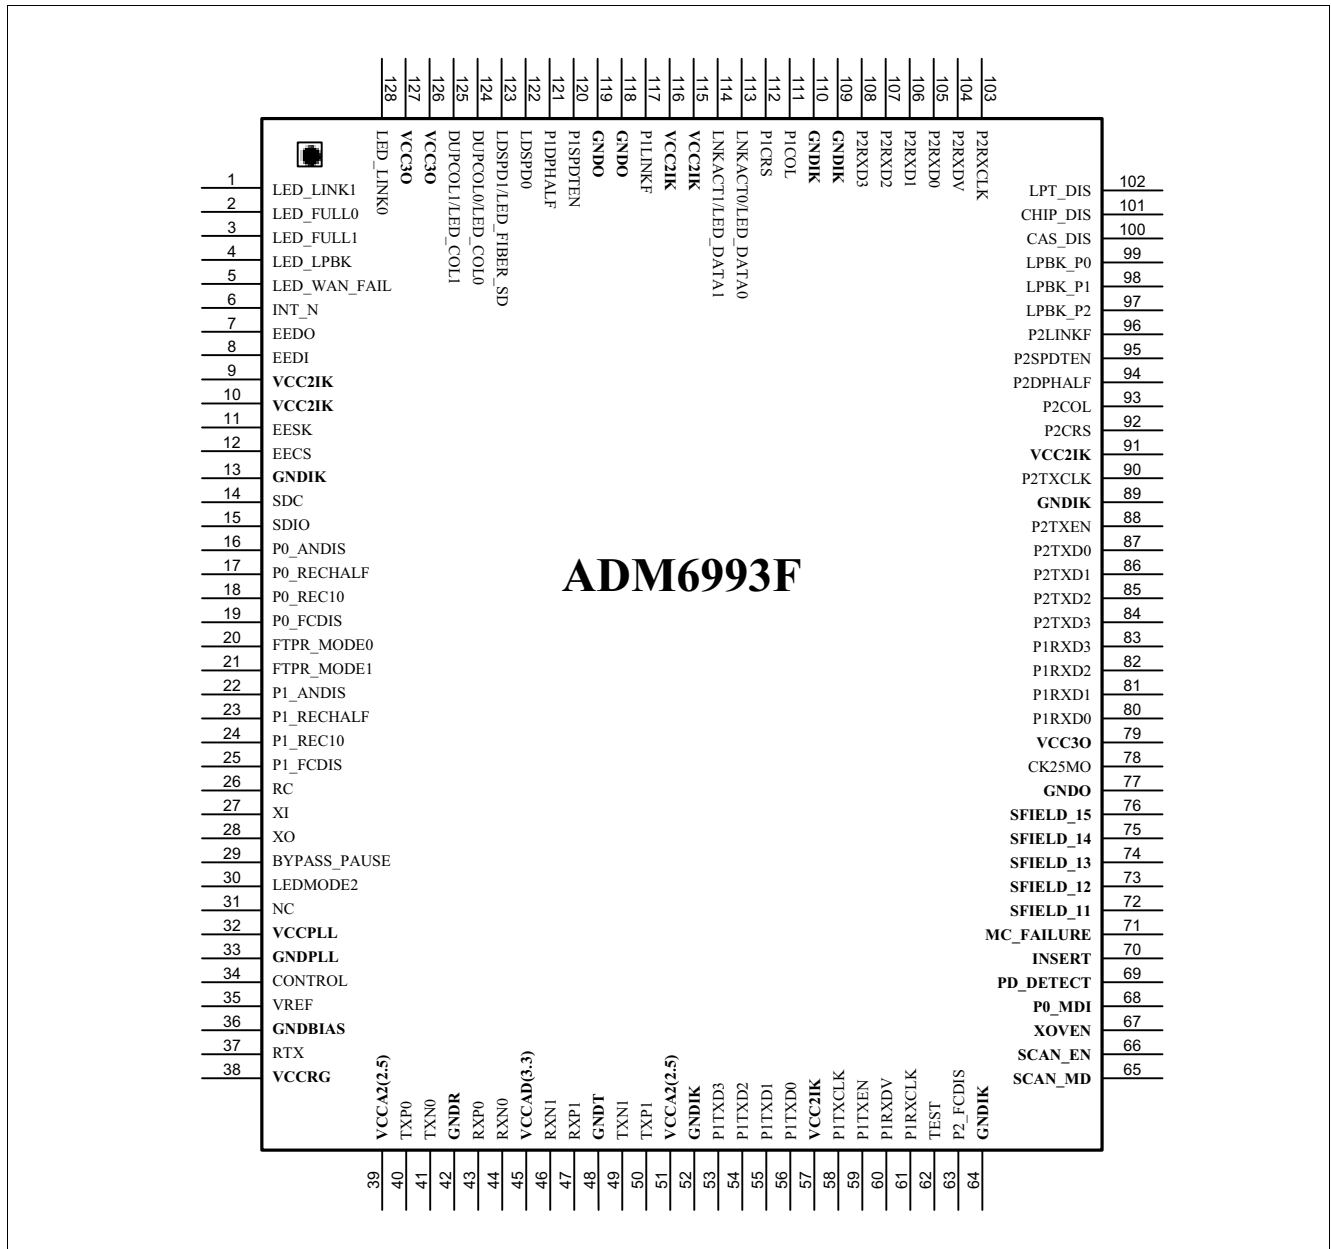

Figure 2 ADM6993F/FX Pin Assignment
- Figure 2 ADM6993F/FX Pin Assignment 10